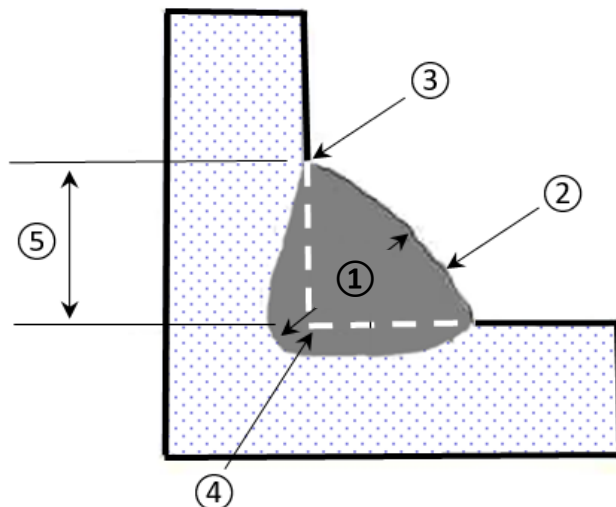

Figure 4a / Rajah 4a
- a) Name parts of a weld joint ①, ②, ③, ④ and ⑤ shown in **Figure 4a** below ;